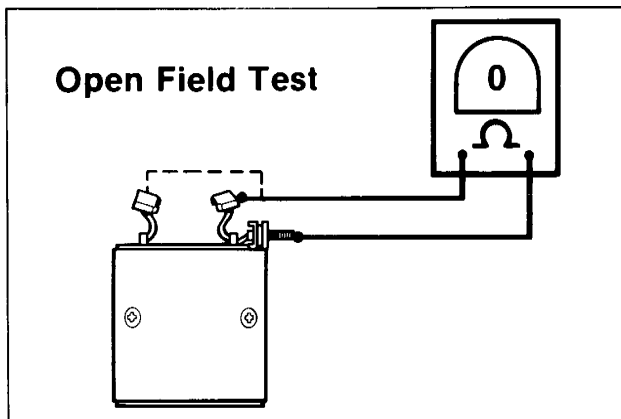

Figure 5-5. Open Field Test
2. See Figure 5-5. To test for an open field coil, touch one ohmmeter probe to the starter terminal and the other probe to each of the field brushes in turn. There should be continuity, zero ohms at both test points. Any ohm reading other than zero indicates an open circuit and the field frame must be replaced.